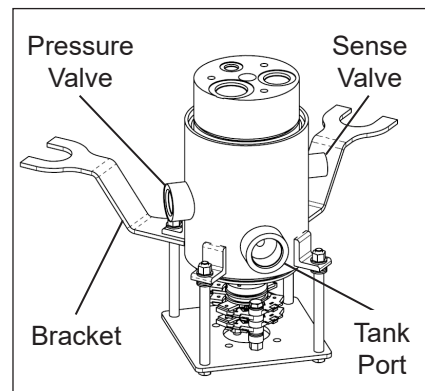

Figure 2 — Rotary Joint Tank Port
5. Locate the tank port on the side of the rotary joint and confirm if a check valve is installed (refer to Figures 2 and 3). The tank port will face the curb side of the unit and the check valve will have an arrow embossed into the valve (refer to Figure 3). Note that the 90° fitting may also have a swivel nut that resembles the check valve, but will not have the embossed arrow (refer to Figures 3 and 4). Be careful not to confuse the swivel nut for the check valve. Remove additional pedestal covers to access the tank port, if necessary.